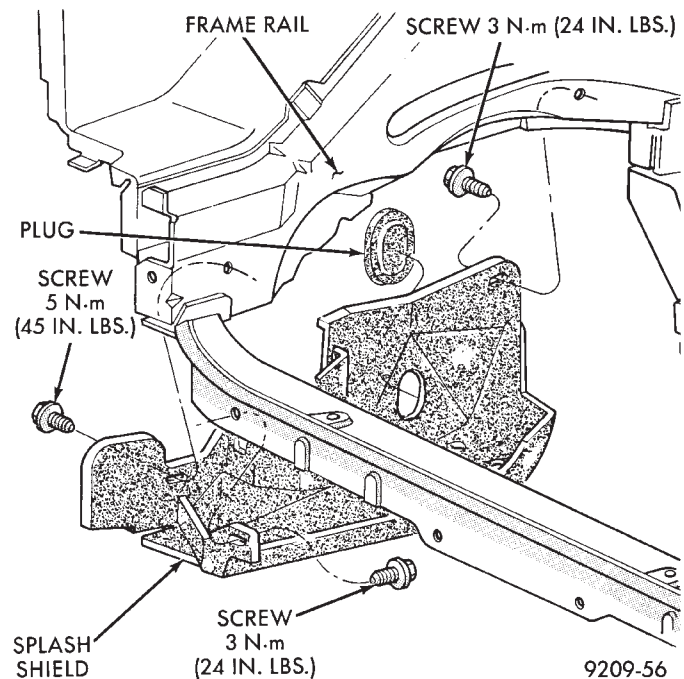

Fig. 5 Right Inner Splash Shield
- (15) Attach C-clamp on front bottom of torque converter housing to prevent torque converter from coming out.
(16) Install transmission holding fixture.
(17) Remove right inner splash shield (Fig. 5).
(18) Remove ground strap.